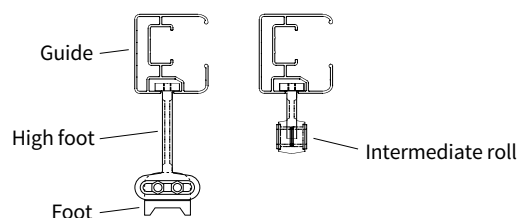

Fig. 3 Front view foot and intermediate roll
- Slide the high foot in the side guide and mount the side guide to the foot on the veranda roof. **(See Figure 3)**